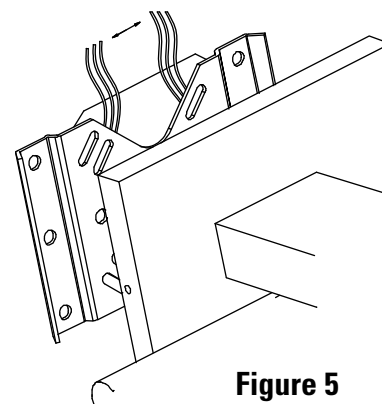

Figure 5
- A. Pull wiring from the j-box and the fixture through top of the wall bracket. (Fig. 5)